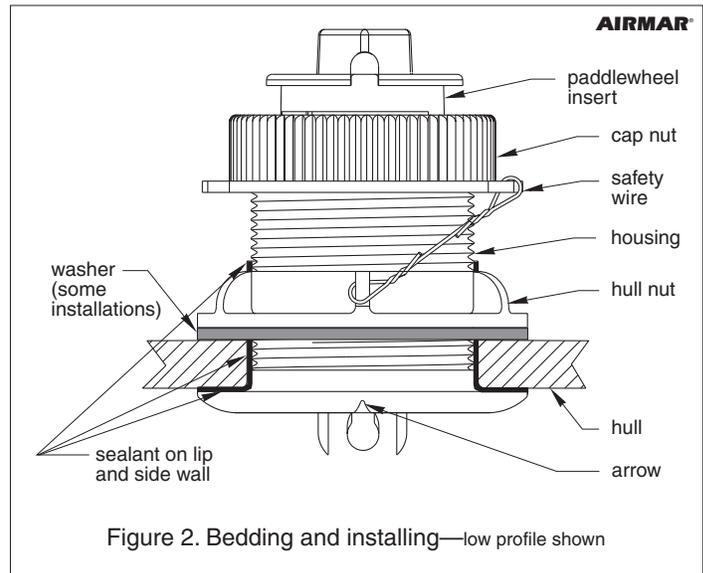

Figure 2. Bedding and installing—low profile shown
Apply a 2mm (1/16") thick layer of marine sealant around the lip of the housing that contacts the hull and up the sidewall of the housing. The sealant *must* extend 6mm (1/4") higher than the combined thickness of the hull, any washer(s), and the hull nut (see Figure 2). This will ensure there is sealant in the threads to seal the hull and hold the hull nut securely in place.
1. From outside the hull, push the housing into the mounting hole using a twisting motion to squeeze out excess sealant. *Align the arrow on the lip of the housing to point forward toward the bow* (see Figure 2). If the sensor is not installed on the centerline of the boat, angle the housing slightly toward the centerline to align it with the water flow.
- Attach the safety wire to one eye in the hull nut. Lead the wire in a counterclockwise direction and thread it through one eye in the cap nut. Twist the end securely to the wire (see Figure 2).
When the boat is placed in the water, **immediately** check around the thru-hull sensor for leaks. Note that very small leaks may not be readily observed. It is best not to leave the boat in the water for more than 3 hours before checking it again. If there is a small leak, there may be considerable bilge water accumulation after 24 hours. If a leak is observed, repeat "Bedding" and "Installing" **immediately** (see Figure 2).
2. Remove the safety wire from the cap nut (see Figure 2).
4. Reattach the safety wire to the cap nut (see Figure 2).